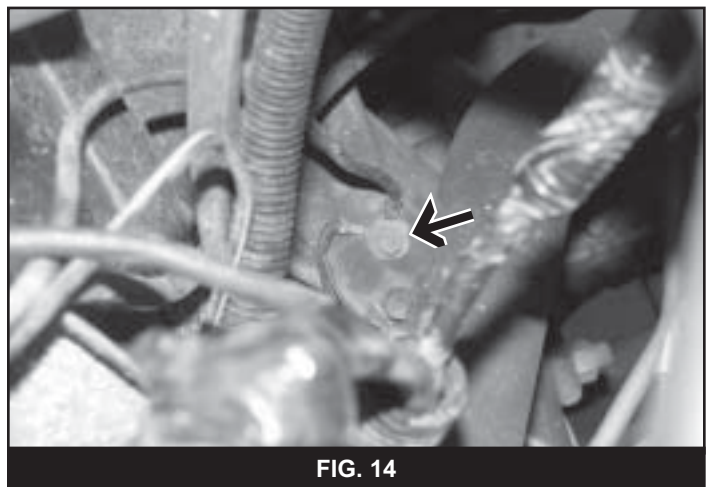

FIG. 14
24. Remove the bolt mounting the ground strap(s) to the passenger's side frame rail (Fig 14).